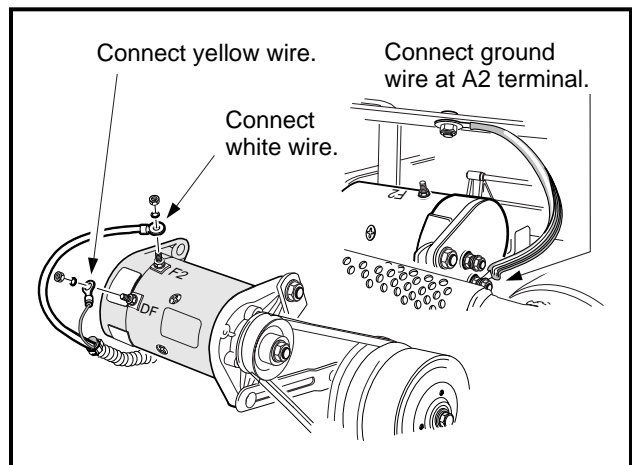

Figure 16-96 Starter/Generator
21. Connect the 6 gauge white wire to the F2 post, the 6 gauge black ground wire to the A2 post and tighten to 48 in-lb (5.4 N·m). Connect the 16 gauge yellow wire to the DF post on the starter/generator and tighten to 30 in-lb (3.4 N·m) (**Figure 16-96, Page 16-37**).